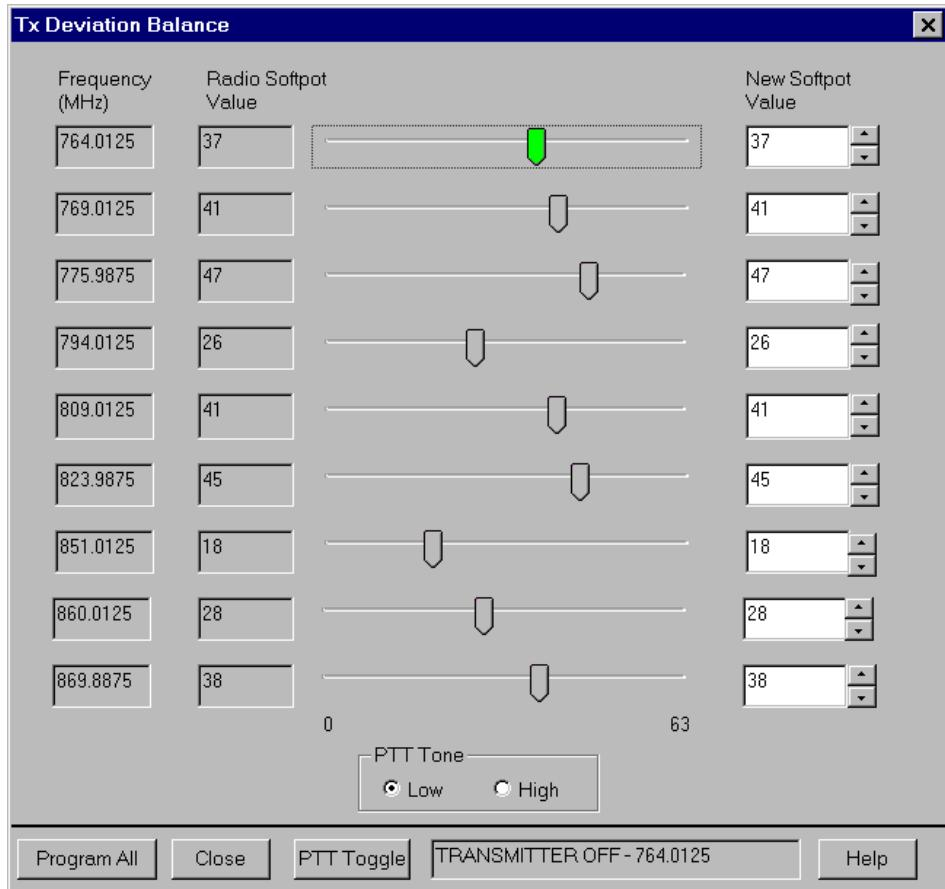

Figure 11. Transmit Deviation Balance Alignment Screen
3. Select the **TX Deviation Balance** alignment screen. The screen indicates the transmit frequencies to be used. See Figure 11.